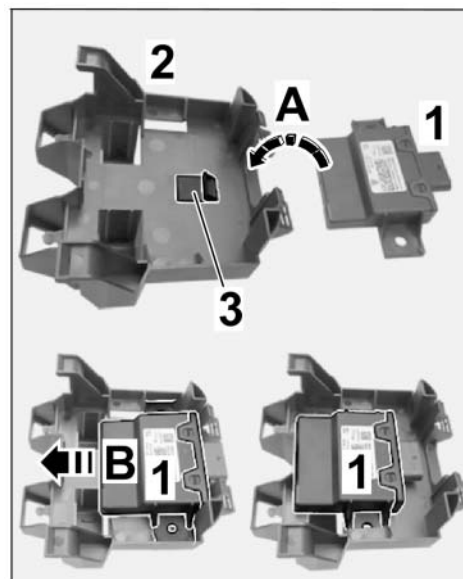

Figure 11
- 2.4 Insert new engine noise control unit at the underside in the control unit holder ( $\Rightarrow$  Figure 11 -LHD vehicle -).